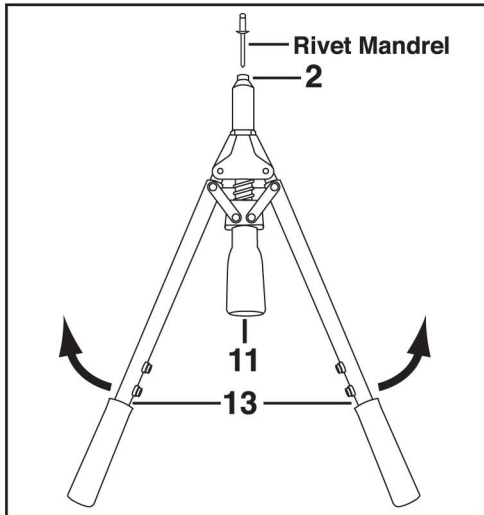
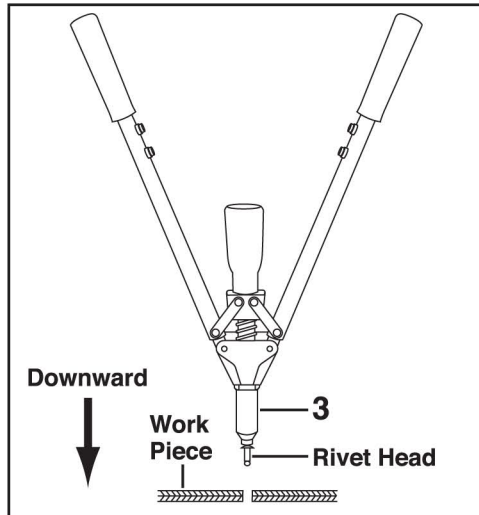

Fig.1
Fig.2
- 1) Open 2 Handles (13) fully, insert Rivet Mandrel all the way into Tool Nosepiece (2) (Fig.1), Rivet can be kept in Tool even Tool Head (3) is downward, then insert Rivet Head into the prepared hole of Work Piece completely (Fig.2).